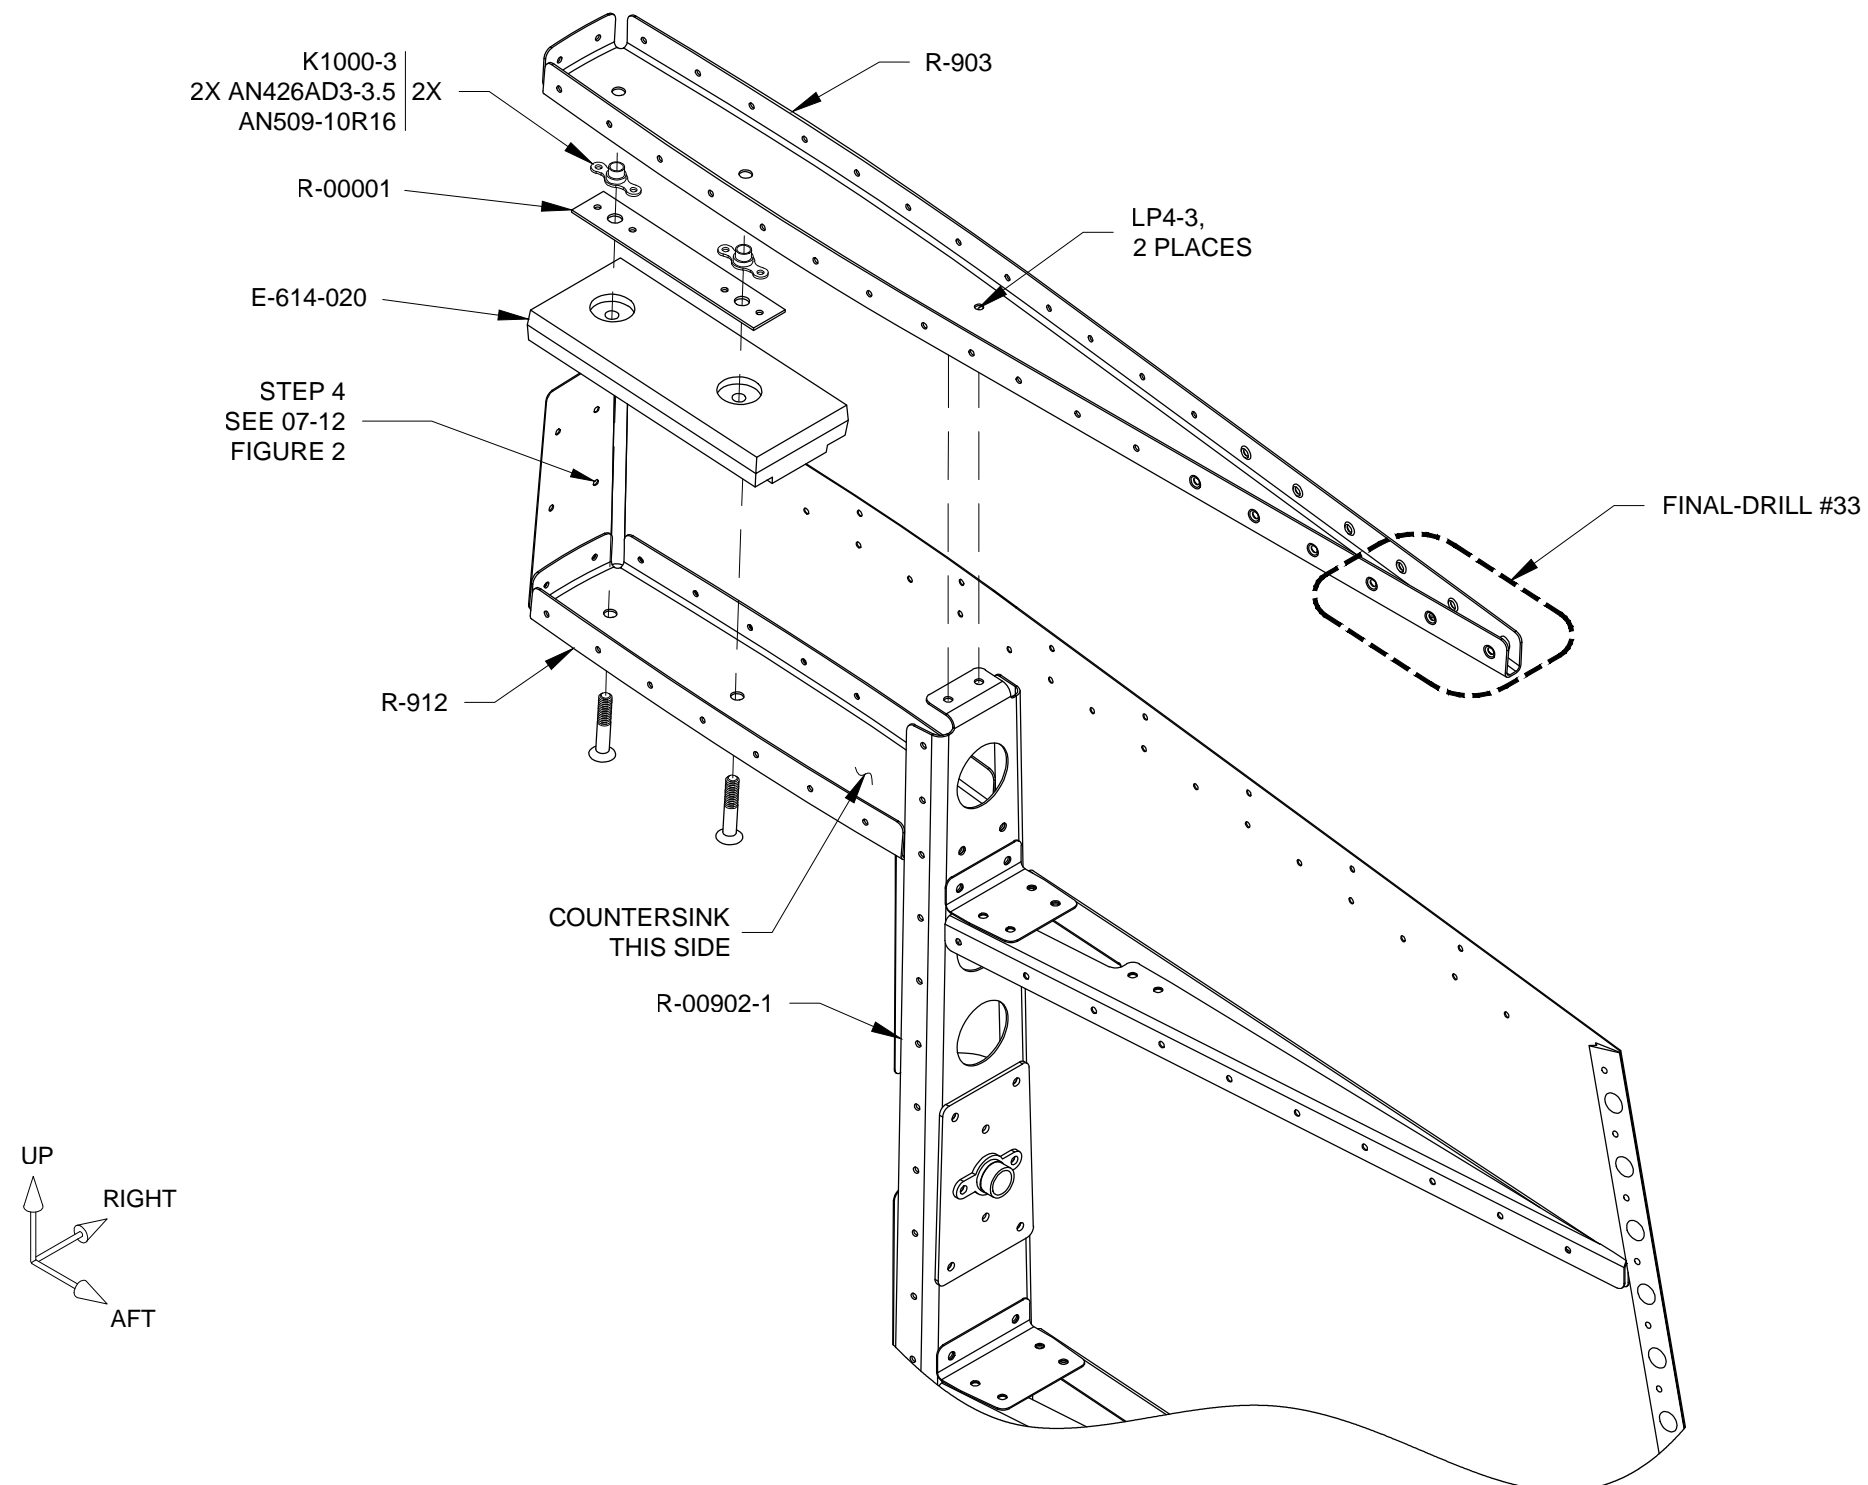

FIGURE 1: ATTACHING COUNTERBALANCE RIB
Step 6: Final-Drill #33 the six aft-most holes in the R-903 Top Rib. See Figure 1.
Step 7: Cleco then rivet the R-903 Top Rib to the R-00902-1 Spar and R-901-1 Rudder Skins. See Figure 1 and Page 07-12 Figure 2 for hardware callouts.